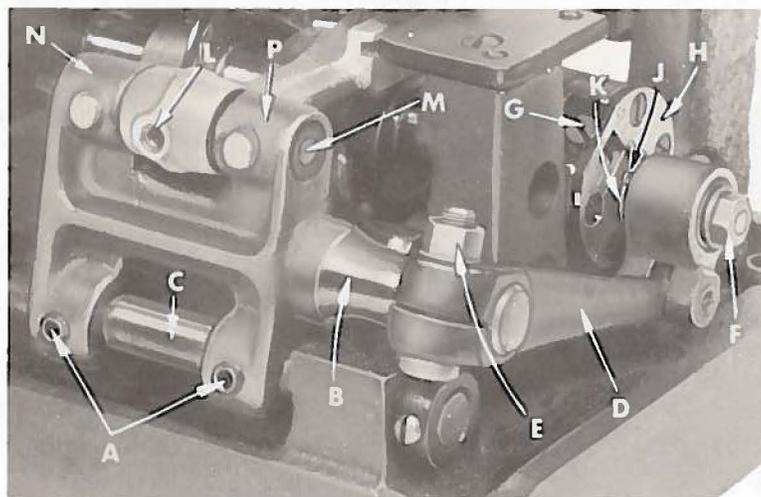

Fig. 10
Should it be necessary to move the feed dog to the left or right, loosen screws (A, Fig. 10) which hold the feed rocker (B) onto the feed rocker shaft (C), and move feed rocker to desired position and retighten screws. Make sure the feed rocker arm (D) does not bind after making this adjustment.
Should it be necessary to move the feed dog forward or backward, loosen nut (E, Fig. 10) which clamps the feed rocker arm to the feed rocker and move the feed rocker forward or backward as needed and retighten nut.
Set the stitch to required length. This is accomplished by loosening the locknut (F, Fig. 10) 1/2 turn (it has a left hand thread) on the end of the stitch regulating stud and turning the stitch adjusting screw (G) located under the left end of the cloth plate, in the head of the main shaft (H), which is marked with 'L' and 'S'. Turning the screw clockwise shortens the stitch (moves stitch regulating stud toward the 'S') and turning it in a counterclockwise direction lengthens the stitch (moves stitch regulating stud toward the 'L'). Retighten the locknut securely. To prevent destructive damage to the feed drive bearing, the Key screw (J) must engage the 'U' shaped key slot in the ferrule (K).
The feed rocker assembly may require lubrication or repair after years of operation. This can be accomplished as follows: Loosen nuts (E, F, Fig. 10) and remove nut (F). Remove feed rocker arm (D) from machine by rocking slightly. Loosen screws (A) and remove stop collar on right end of shaft (C). The shaft can now be withdrawn. Loosen Allen screw (L) and remove shaft (M). Now, repack bearings.
When packing bearings the parts must be clean and grease should be applied directly from the tube to avoid contamination. Tube of grease can be supplied under the part number 28604 P. Greased bearings are located at (N, P, Fig. 10). If grease sealed bearings are replaced they should be pressed in flush with the casting. To assemble, reverse the procedure described in the previous paragraph. Start tapered end of shafts first, twisting slightly when entering the grease seals to prevent damage. Check for proper adjustment of feed dog as described under "Setting the Feed Dog". Also check to see that there is no binding at any point.